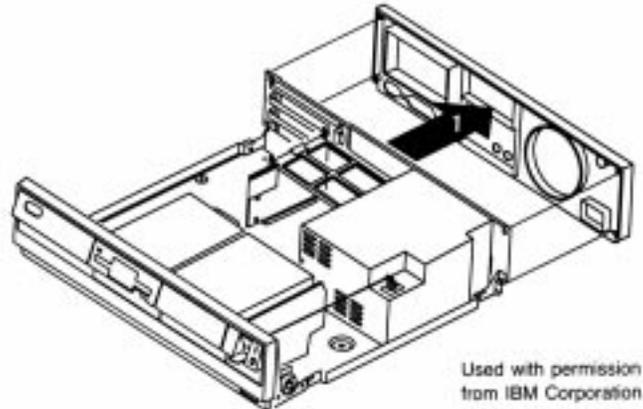

Fig. 3.20
6. Remove the rear cover that covers the system’s back panel. You remove this cover by loosening the screw on each corner of the rear cover on the back of the system. Pull the rear cover back and away from the system unit (see fig. 3.20).